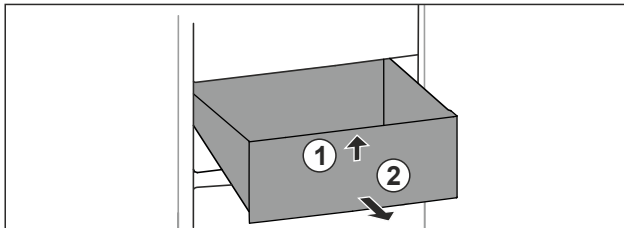

Fig. 93
- Lift up drawer at the front. Fig. 93 (1).
- Remove drawer to the front. Fig. 93 (2).